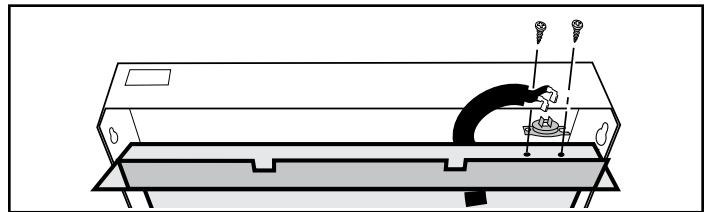

**Figure 2.1 - Place upper flange behind lower edge of shroud.**
1. Remove shroud assembly by loosening two (2) hex head bolts on lower inside of shroud. Lift shroud assembly up and away from stove.
2. Attach the fan to the rear shroud by engaging the upper flange of the fan skirt under the lower edge of the shroud and secure the skirt with the four screws and one star washer provided, Figures. 2.1 & 2.2.